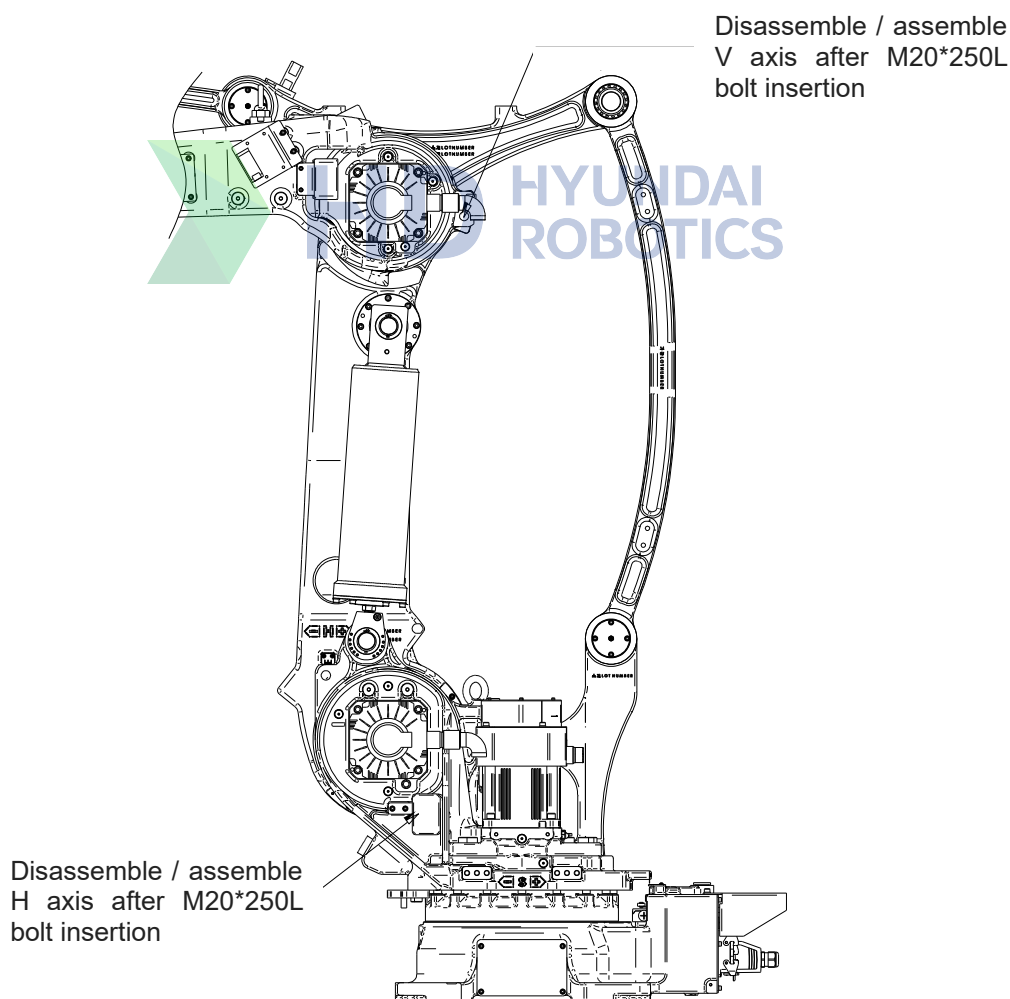

Figure 6.1 Method to prevent ARM on H, V-axis from falling (HP130)
When motor is separated, the ARM will drop due to its built-in brakes inside the motor for holding posture of arm. To prevent this drop, please make sure safety measures, such as fixing A2 FRAME and 2 ARM by using M20×250 as shown in [Figure 6.1] or fixing arm with devices like a crane, etc. Never hold arm by hand.
- (1) Put the controller into TEACH mode and select motors [ON]. When the motors [On] state cannot be obtained, check the respective ARM is completely fixed while supporting it to prevent dropping. And then begin at step No.4.
- (2) The axis requiring motor replacement takes basic posture.
- (3) In case of main axes(S, H, V) : Refer to [Figure 6.1].